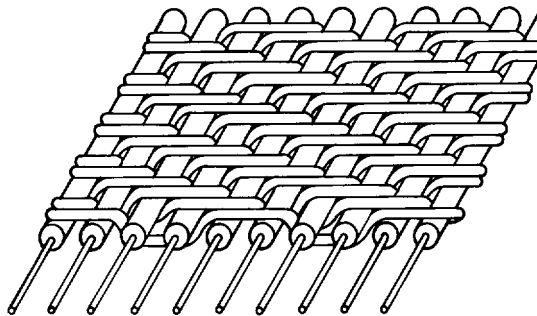

Figure 6. Twill Weave Cable
(2) **Twill Weave.** The twill weave is accomplished on the same type loom except the components are woven in a two up, two down alternating pattern (Figure 6).